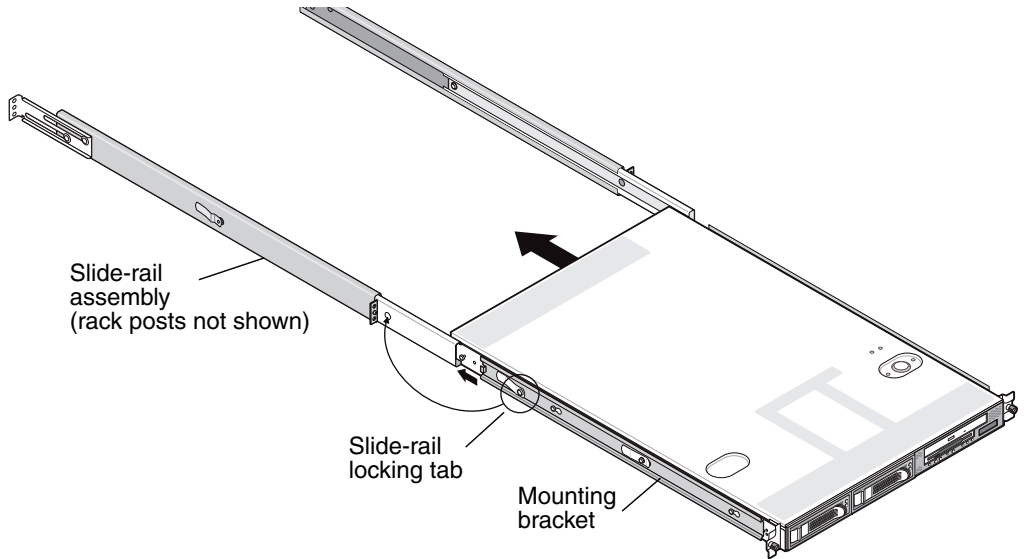
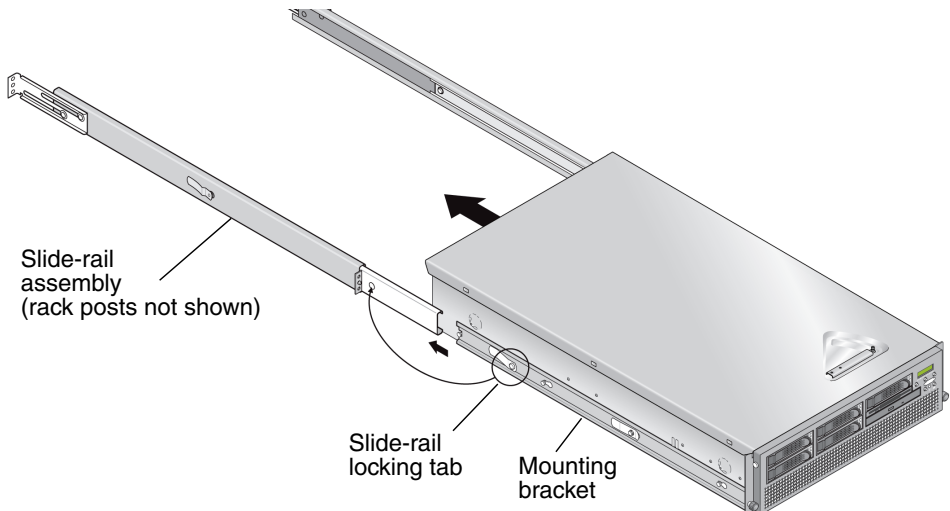

FIGURE 1-4 Installing the Sun Fire V20z Server Into the Rack
FIGURE 1-5 Installing the Sun Fire V40z Server Into the Rack
3. Slide the server, with mounting brackets installed, into the rack so that the mounting bracket bases fit inside the slide rail assemblies (see FIGURE 1-4 or FIGURE 1-5).